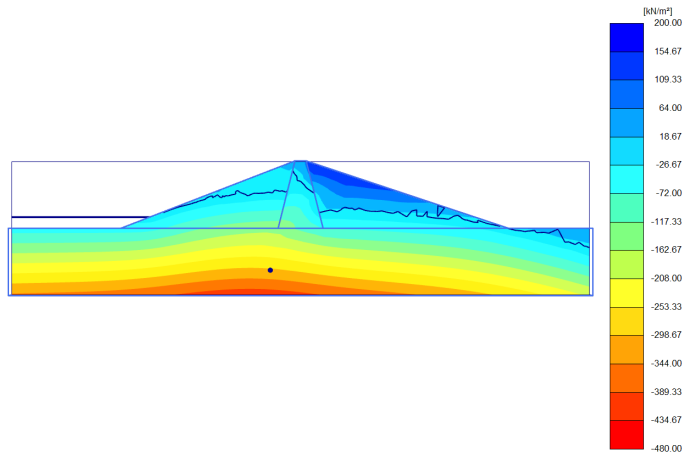

Figure 7.11 Pore water pressure distribution after slower drawdown (Phase_2)
- The situation after slow drawdown of the reservoir level (Figure 7.11).